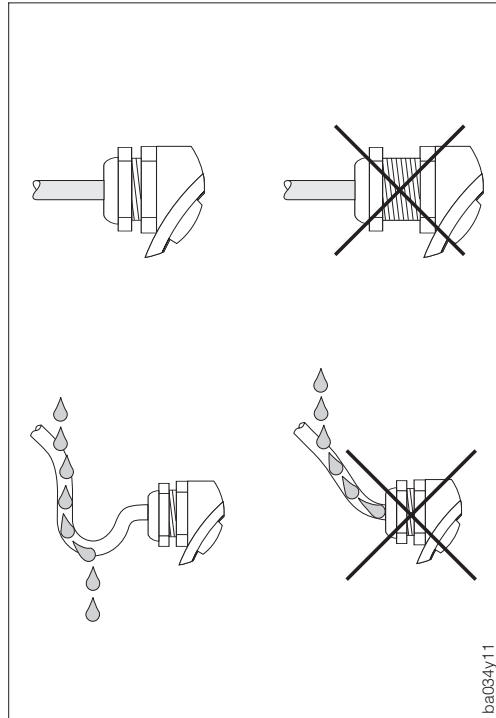

Fig. 2
- The cable gland must be firmly tightened (see Fig. 2).
- The cable must loop down before entering the cable gland to ensure that no moisture can enter (see Fig. 2).